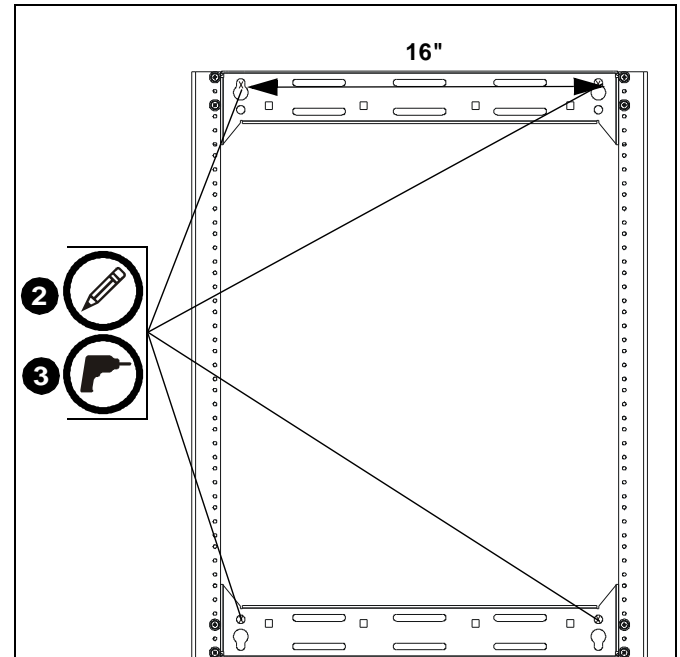

Figure 14
2. Place assembled frame on wall and mark hole locations. (See Figure 14)
3. Drill four 3/8" (10mm) diameter holes to a depth of 3 1/2" (89mm) at marked locations. (See Figure 14)